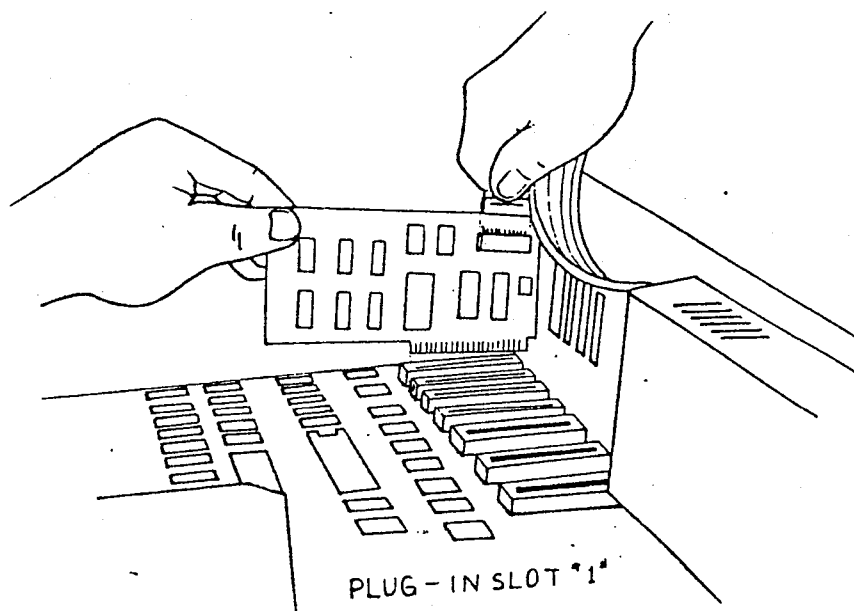

Figure 2-4.2
2. Connect the printer cable to the set of pins located on the rear panel (as Figure 2-4.2). Make sure that all the pins on the card go into the plug's matching hole. The cable only fits one way. In the case of the IMC computer, connect the cable which is attached to the rear panel inside connector on the outside of the rear case.